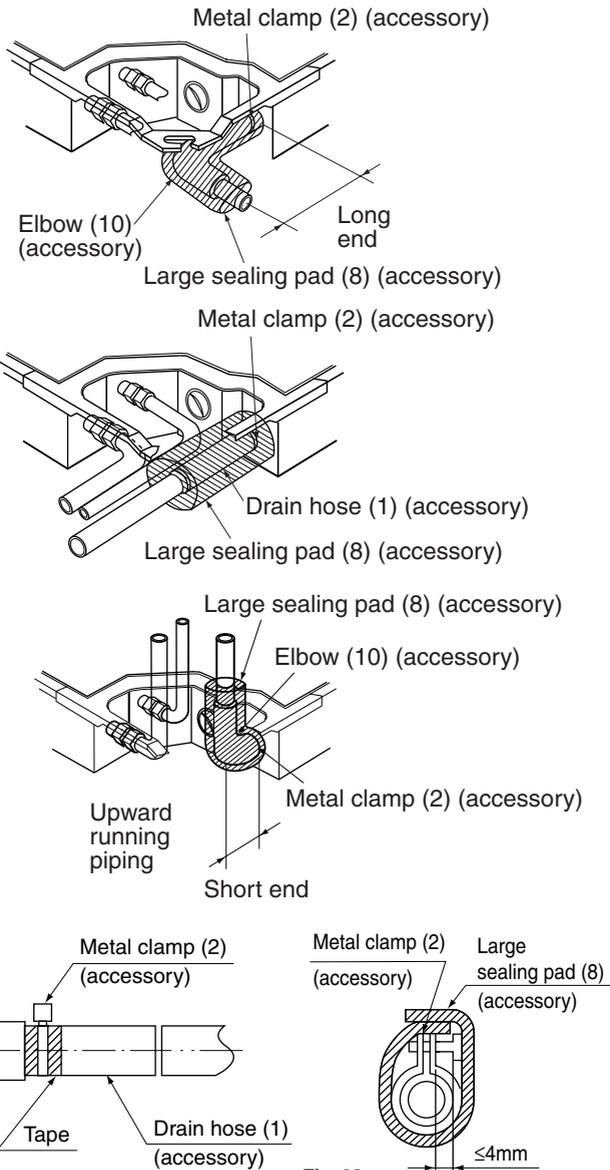

Fig. 28
- Use only the included drain hose (1), (for rightward running drain hose) or elbow (10) (for upward running drain hose) and clamp (2).
- Fit the drain hose (1) or elbow (10) over the drain piping up to the neck and fasten tight with the metal clamp (2).
- Tighten the metal clamp (2) unit the screw head is less than 4mm from the hose.
- Insulate the metal clamp (2) and drain hose or elbow (10) with the included sealing pad (8). (Refer to Fig. 28)